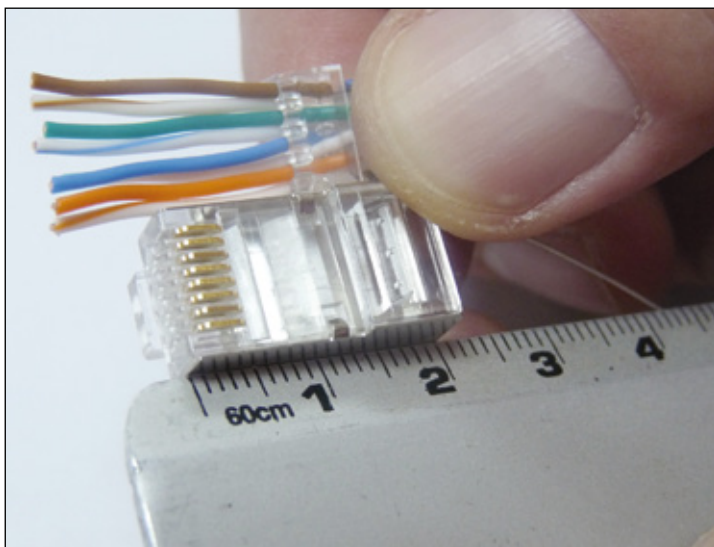

Figure 16
- 12 Please measure with a ruler the approximate distance of 10 mm from the Organizer Insert until the extreme of the **Main Body**, as shown in Figures 16 and 17.